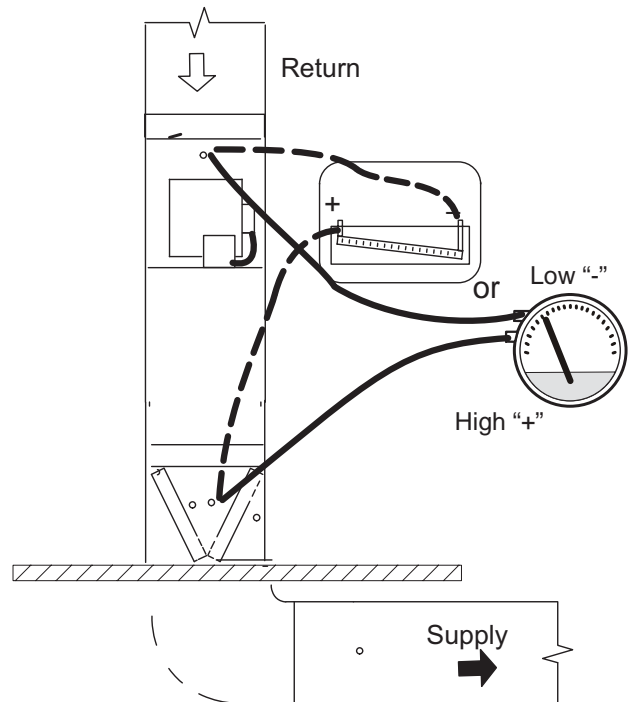

Figure 57.
- 1 - Tap locations shown in **Figure 57**.